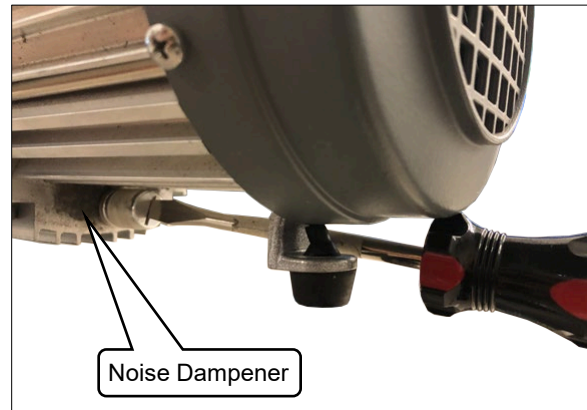

Figure 82: Pump Noise Dampener Removal
1. Remove the noise dampener fitting from the bottom of the pump using a long flathead screwdriver (Figure 82).